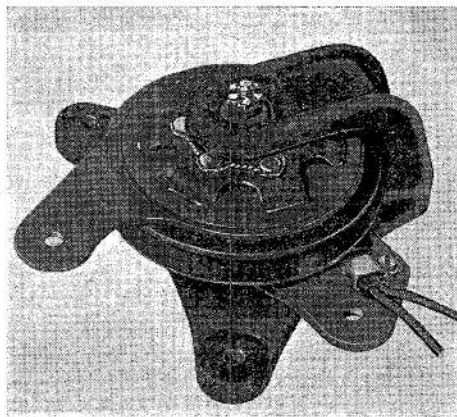

Fig. 4. Clutch assembly
26. The magnetic clutch assembly (fig. 4) serves to couple the output of the auto-throttle actuator to the aircraft's throttle control linkage. When the pilot engages the system, within the engagement band, the clutch locks the actuator to the control run and the actuator then operates to move the entire throttle linkage.